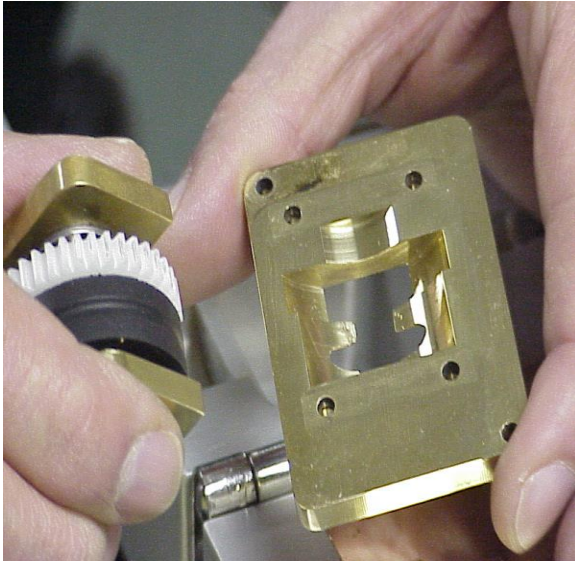

Figure 39
13.5.2.4 Separate Bearing Hanger Assembly from Upper Brass Plate. **See Fig. 39.**